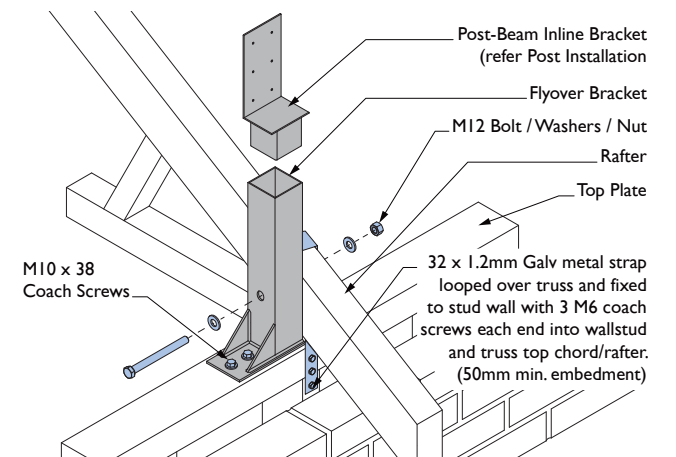

Figure 1.4
The supplied Flyover Brackets must be secured to the structure atop the top plate and against the rafter. Fix the Flyover Bracket to the top plate using two (2) M10 coach screws a minimum 38mm into the top plate (Figure 1.4). The Flyover Bracket can then be secured to the rafter using a single M12 bolt & lock nut through the centre of the rafter (Figure 1.4).  $\phi 14\text{mm}$  pilot holes will need to be created through the Flyover Bracket and rafter to accommodate the bolt.